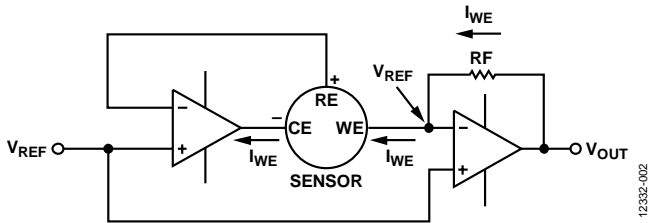

Figure 2. Simplified Electrochemical Sensor Circuit
Figure 2 shows a simplified schematic of an electrochemical sensor measurement circuit. Electrochemical sensors work by allowing gas to diffuse into the sensor through a membrane and by interacting with the working electrode (WE). The sensor reference electrode (RE) provides feedback to Amplifier U2-A, which maintains a constant potential with the WE terminal by varying the voltage at the counter electrode (CE). The direction of the current at the WE terminal depends on whether the reaction occurring within the sensor is oxidation or reduction. In the case of a carbon monoxide sensor, oxidation takes place; therefore, the current flows into the working electrode, which requires the counter electrode to be at a negative voltage (typically 300 mV to 400 mV) with respect to the working electrode. The op amp driving the CE terminal should have an output voltage range of approximately ±1 V with respect to V_{REF} to provide sufficient headroom for operation with different types of sensors (Alphasense Application Note AAN-105-03, *Designing a Potentiostatic Circuit*, Alphasense, Ltd.).